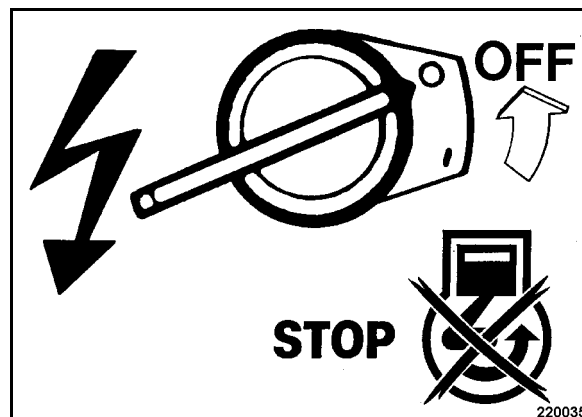

Fig. 30
- Turn the ignition switch to position OFF (Fig. 30), the engine will stop.